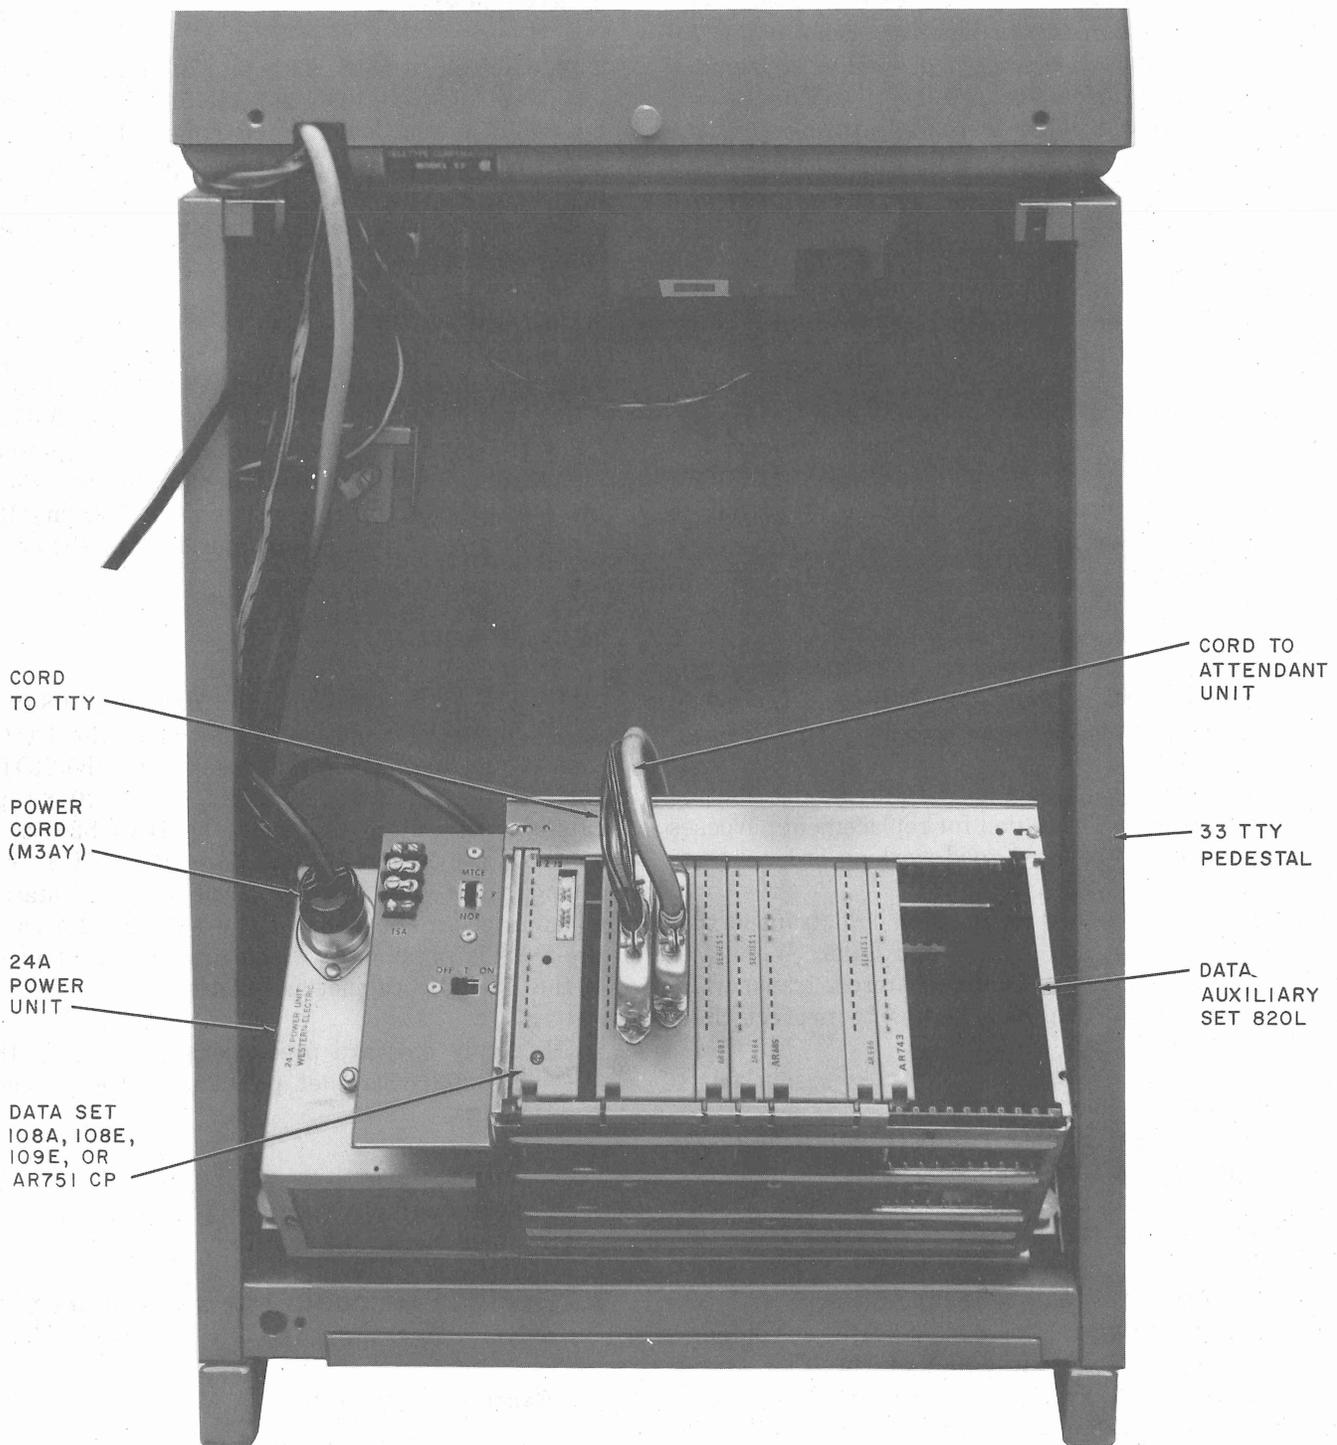

Fig. 1—Model 33 ASR TTY—Rear View With DAS 820L-L1/2 in Maintenance Position
2.01 Access to DAS 820J- or 820L-type and data set 108-type, 109E, or AR751 CP is obtained by removing the rear panel of the TTY stand. To facilitate ease of maintenance, the DAS can be tilted outward into a maintenance position (Fig. 1). This is accomplished as follows:
- (1) Rotate the latch in a counterclockwise direction. This allows the DAS to pivot on the 91A bracket.
- (2) Using both hands, gently tilt the DAS toward the rear of the station as shown in Fig. 1.